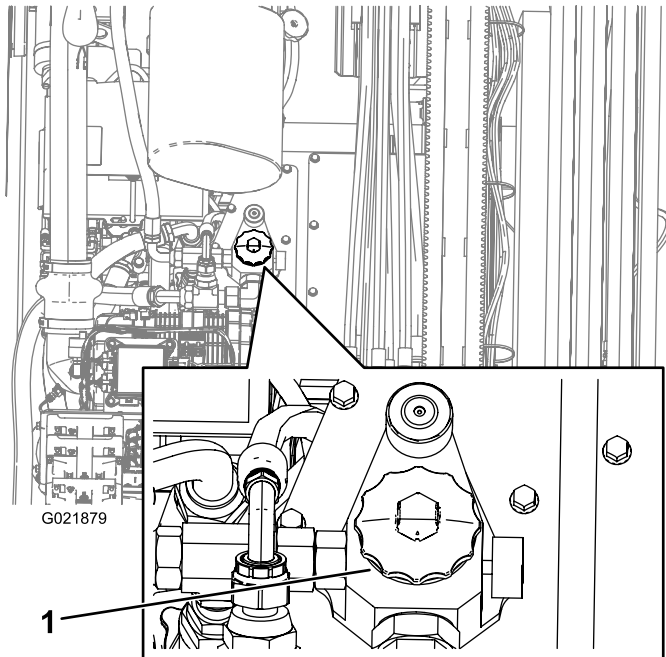

Figure 145
4. Open the hydraulic-tank cap (Figure 145).
10. Place a drain pan under the filter and remove the filter (Figure 145).